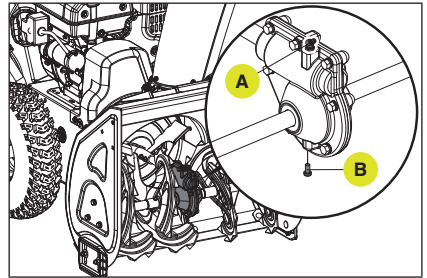

Figure 94
1. Clean dirt off the zerk fitting (A) and the M5 x 10 cross recessed bolt (B). (Fig. 94)
2. Use a Phillips screwdriver to remove the M5 x 10 cross recessed bolt (B). (Fig. 94)